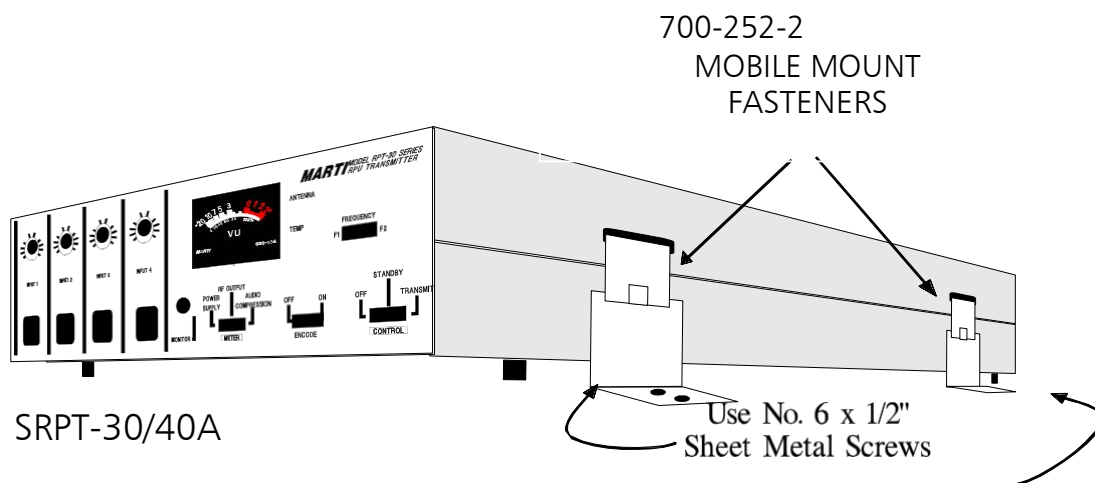

Figure 2-1. Receiver Mounting
2. Hook the four mounting fasteners (in retracted position in the four slots on the sides of the transmitter. See Figure 2-1. (Fasteners are in Mobile Mounting Kit, 700-252-2).